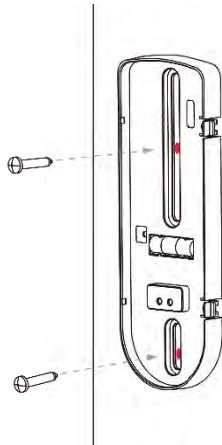

Figure 17: Installing the Screws
- Secure the bracket with screws. Please see Figure 17.